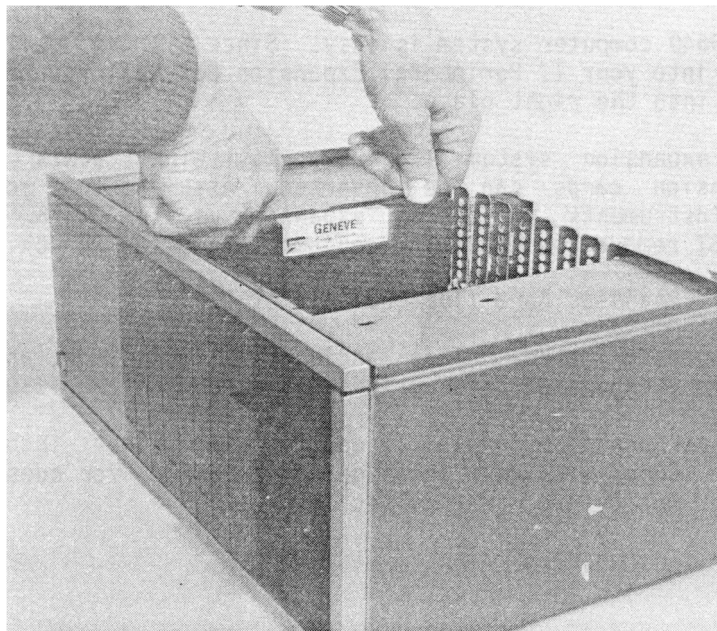

Figure 4 - Inserting the 9640 computer card into the Peripheral Expansion Box
6. Carefully align the 9640 Computer Card in the first slot (marked by a 1) and press the card firmly down into the slot. You should be able to feel the connection being made between the 9640 Computer Card and the PE box. See figure 4.